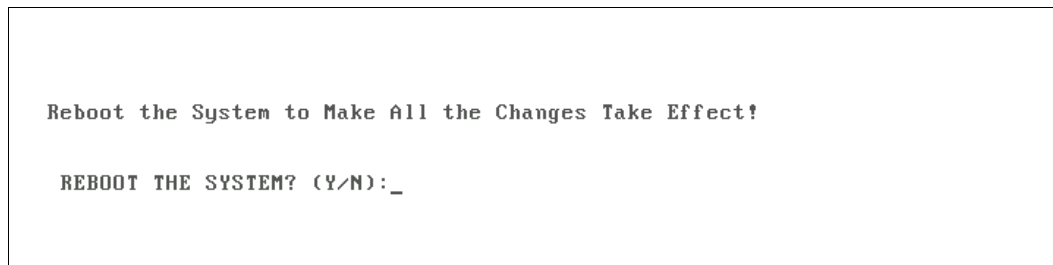

Figure 4-22 Emulex configuration panel: Reboot request
15. After all Emulex controllers have been configured, use **x** to Exit the Emulex panels. As seen in Figure 4-22, when the Emulex BIOS has been exited, press **Y** to reboot the system.